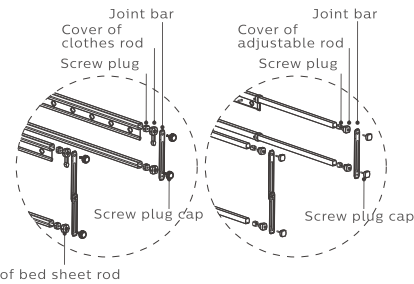

Figure 7
2. As shown in Figure 7 (SDR601-FA0 on the left, SDR601-FB0 on the right), unfasten end cover assembly of rods and mount each part in following order, screw plug, rod cover (clothes rod, bed sheet rod or adjustable rod), joint bar and fasten all with screw plug cap.